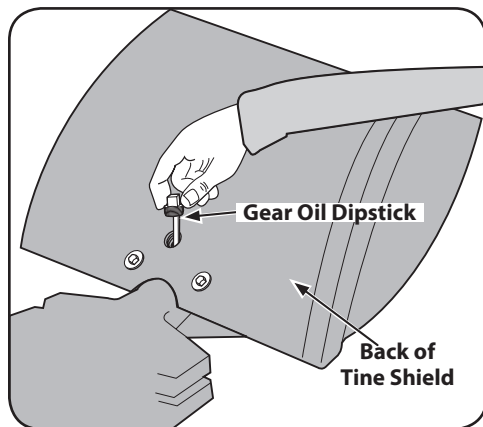

Figure 5-7
NOTE: Two different gear oil checking procedures for the tine attachment transmission are described next. Use the first procedure if the dipstick in your tine attachment has only a 'Check Cold' marking. Use the second procedure if the dipstick has both cold and hot markings at the end. First remove the dipstick from the tine attachment transmission to see which type of dipstick you have. See Figure 5-7. Then replace the dipstick with the markings on the dipstick facing to the rear.
- Loosen and remove the transmission dipstick on the back of the tine shield. See Figure 5-7. Wipe it clean with a rag.
- Hold the dipstick so its markings face to the rear of tiller. Lower it straight down into the sump hole to touch the drive shaft inside. See Figure 5-7. Don't force or try to thread it back in; an incorrect reading will result.
- Using a $\frac{3}{4}$ " wrench (or socket), remove the bolt securing the handlebar base to the top of the transmission (prop the handlebars first to prevent them from falling). Then, unplug the Forward Interlock wire harness receptacle at the bottom of the handlebars. Set the handlebar base and bolt aside on a clean surface. The bolt hole in the top of the transmission is the gear oil fill hole. See Figure 5-7.
- Slowly pour gear oil through a clean funnel into the transmission. Stop when gear oil begins to flow from the oil level check hole on the left side of the transmission. See Figure 5-7.